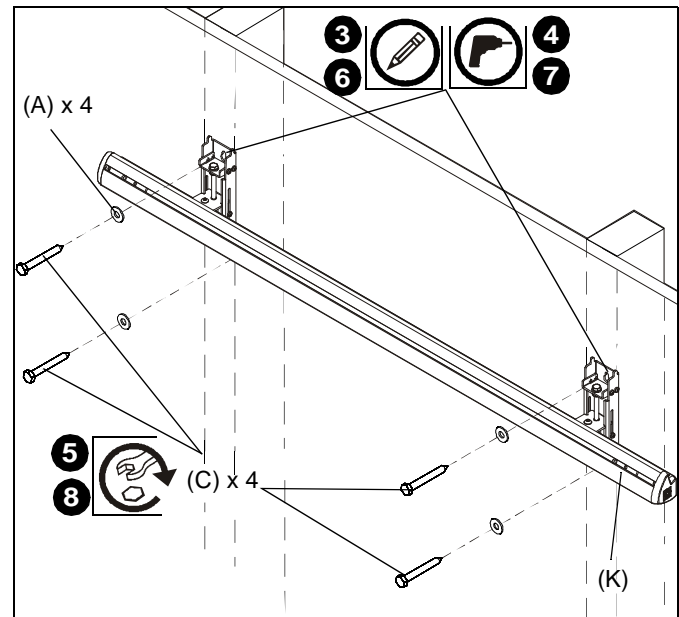

Figure 2
**NOTE:** The two WBM2U wall brackets on the wall assembly (K) must be mounted a minimum of 16" apart, or a maximum of 42" apart.
3. Using a level, mark the wall on each stud above existing chalkboard through **top** mounting hole in the wall assembly (K). (See Figure 2)
4. Drill one 1/8" pilot hole in each stud. (See Figure 2)
5. Use two 1/4-20 x 2-1/2" lag bolts (C) and two 1/4" flat washers (A) to attach wall assembly (K) to wall. (See Figure 2)
6. Mark the wall through the **lower** mounting hole in the wall assembly (K). (See Figure 2)
7. Drill one 1/8" pilot hole in each stud through lower mounting hole in wall assembly (K). (See Figure 2)
8. Use two 1/4-20 x 2-1/2" lag bolts (C) and two 1/4" flat washers (A) to attach wall assembly (K) to wall. (See Figure 2)